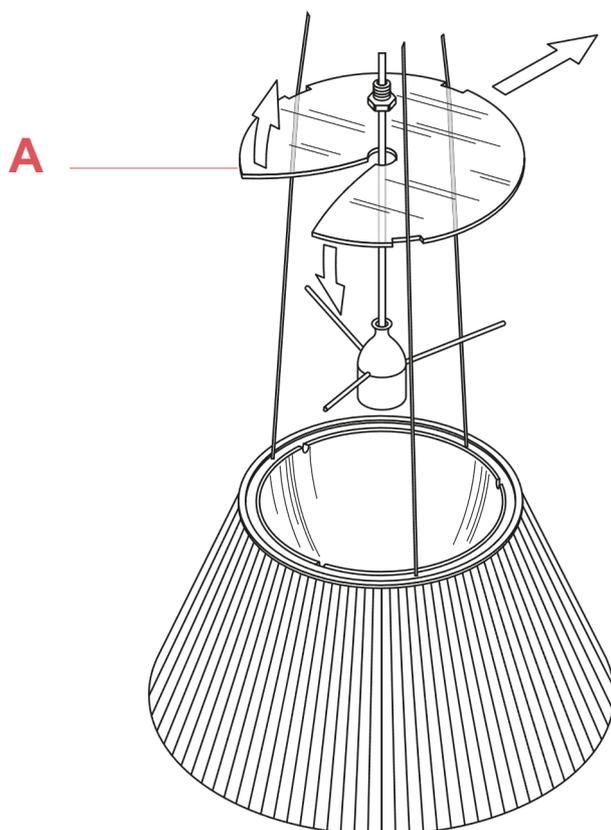

Fig.1
Insert the anti-dust screen (A) by bending the sides of the screen and inserting it through the electrical cable.(Fig.1 page 33)